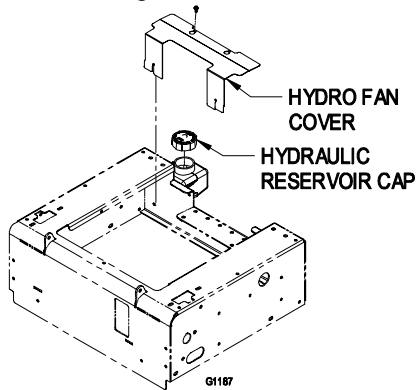

FIGURE 2
2. Remove hydro fan cover and hydraulic reservoir cap as shown in Figure 2.
1. Orient the switch (Item 9) so the "on" position points up as shown in Figure 2. Carefully snap the switch into the bracket cutout.